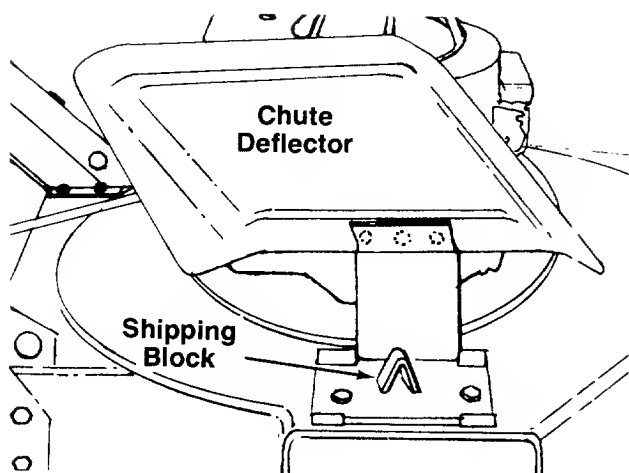

FIGURE 11.
21. If plastic plug is not already assembled, insert plastic plug (E) into hole in the top rear of the deck by slipping one end of plug into hole, then pressing down on the other end of plug.
22. The chute deflector on your mower is held in an upright position by a shipping block. This block is used for shipping purposes only. It **must** be removed and discarded before the mower is put into operation. See figure 11.